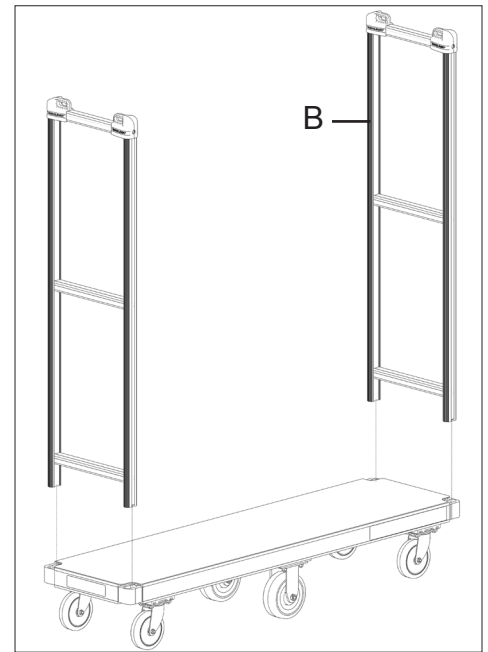

Figure 2
3. Position the handle (B) as shown in Figure 2 and insert it into the sockets of the deck.